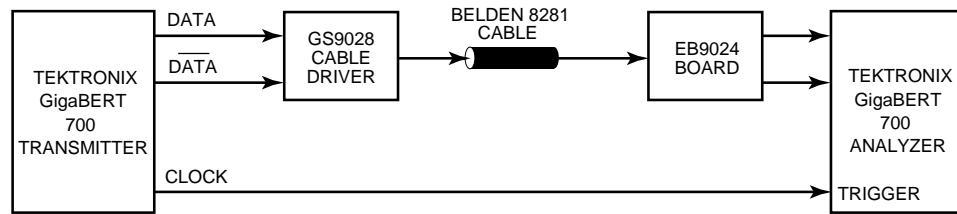

Figure 2-1: Test Setup for Figure 4-1.
4. Evaluated using test setup Figure 2-1.
(see Test Setup in Figure 2-1)**